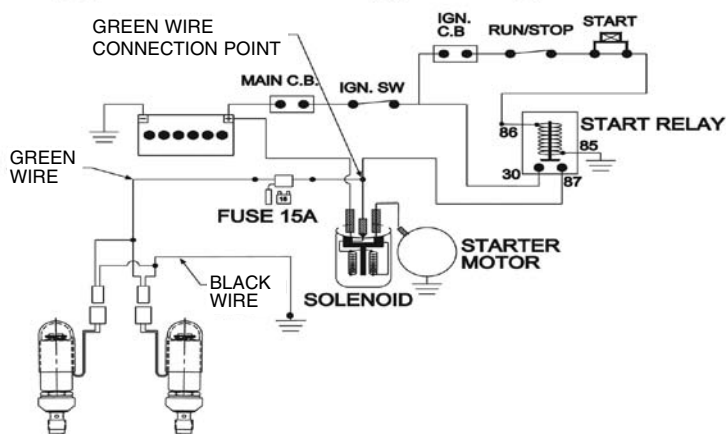

Figure 1
- Using relay circuit diagram in **Figure 1**, locate on your motorcycle, the wiring connection point shown on the diagram. This will be between the starter relay and the starter solenoid.
- Attach the green wire or fuse holder wire to the power connection point shown on **Figure 1**. Use either the supplied ring terminal or a connector of your choice.